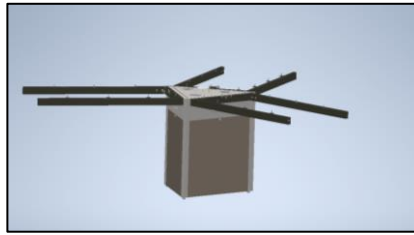

Figure 1
1. Position and secure metal stretchers to the triangular base so that they are flush along the top and centered horizontally using the 1/4-20 x 1/2" machine screws provided. Repeat for each side (Figure 1)